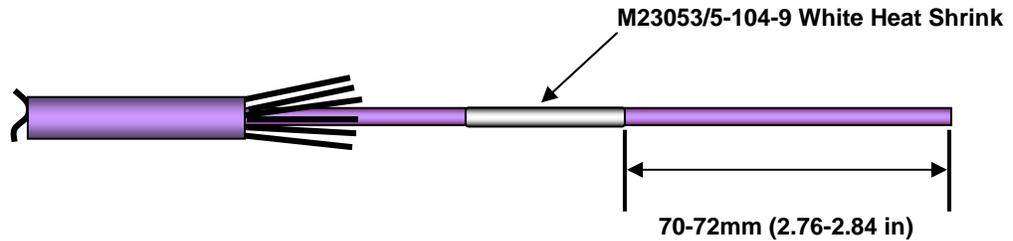

Figure 7-18 – Installing White Heat Shrink Sleeve
- Step 4 - Slide the white heat shrink, part number M23053/5-104-9, 9.5mm +/- 2.5mm (0.375 +/- 0.10 in) long up onto the individual jacketed optical fiber 70-72mm (2.76-2.84 in) from the cut end of the cable. See Figure 7-18.